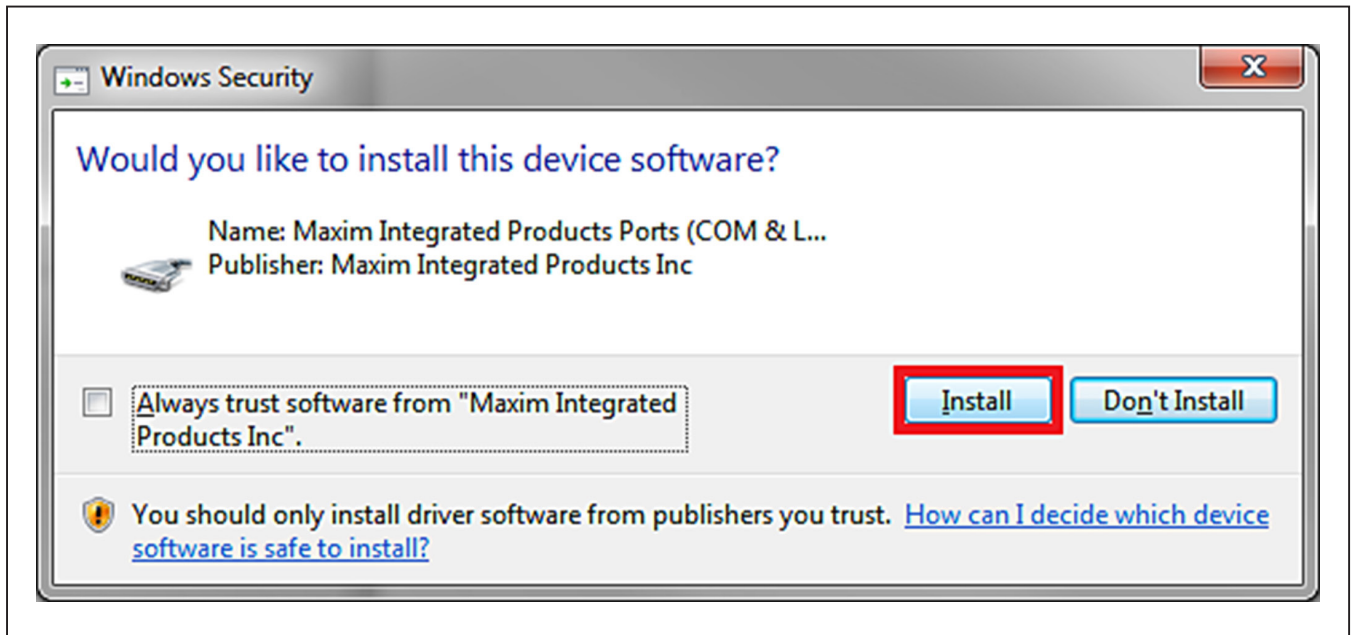

Figure 7. Windows Security Window
- 7) When the **Windows Security** window appears, click the **Install** button (Figure 7).